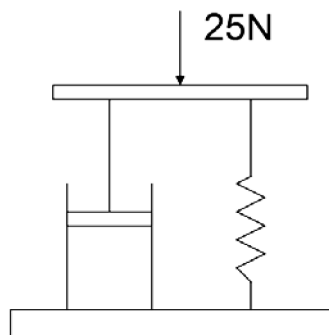

Figure Q5 (ii)
- ii) A force of 25 N is applied downwards to the upper beam as shown in Figure Q5 (ii). The force is then suddenly removed. Calculate the time taken for the system to move 50 mm from its initial starting point and the time taken for the system to return very closely to its original length. (8 marks)